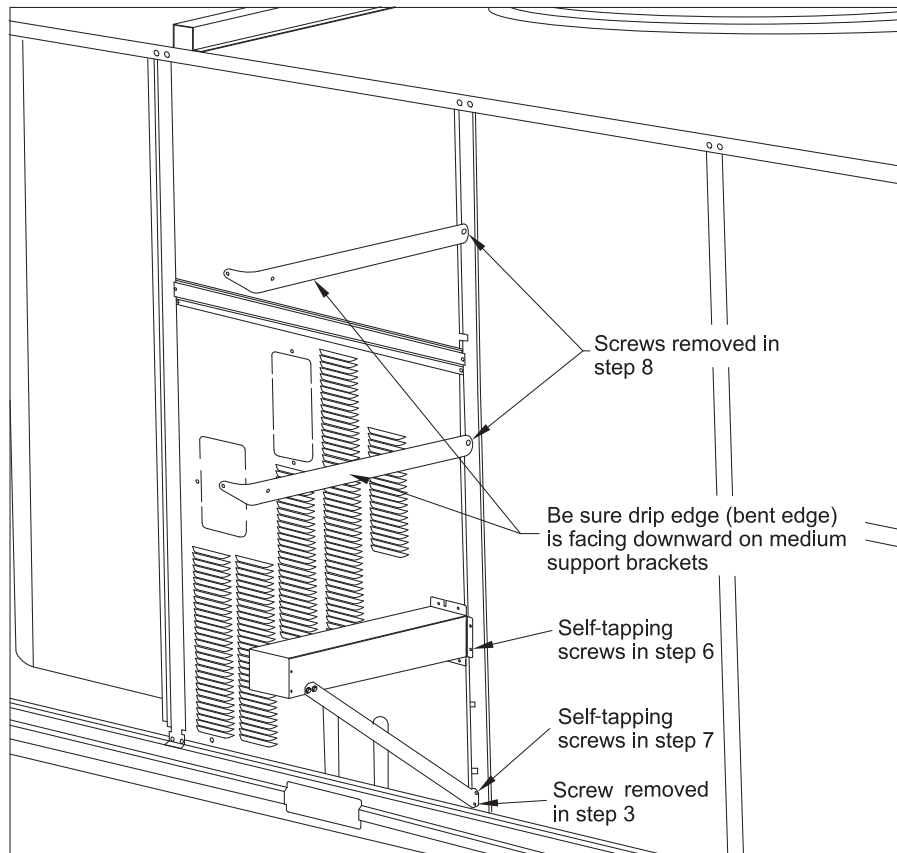

Fig. 2 — Flue Extension and Support Brackets Attached to Unit
3. Remove first screw from bottom left of center post on unit. (See Fig. 2.) Save screw for later use.
6. Secure flue extension through clearance holes in flange with 8 self-tapping screws provided. These screws are in addition to the screws secured in Step 4. (See Fig. 2.)
7. Secure short flue extension support bracket to center post with 1 self-tapping screw provided. This screw is in addition to the screw secured in Step 5. (See Fig. 2.)
8. From top of center post, remove second and fourth screws. Save screws to use in next step. (See Fig. 2.)
NOTE: Be sure the drip edge (bent edge) is facing down. (See Fig. 2.)